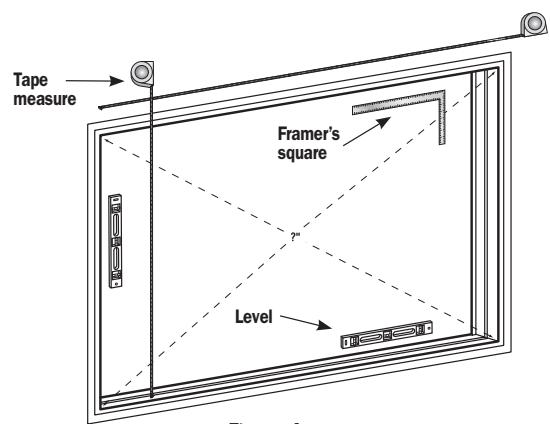

Figure 1
- Prior to removing the existing window, always check the following measurements to ensure the new unit will fit the opening (Figure 1):